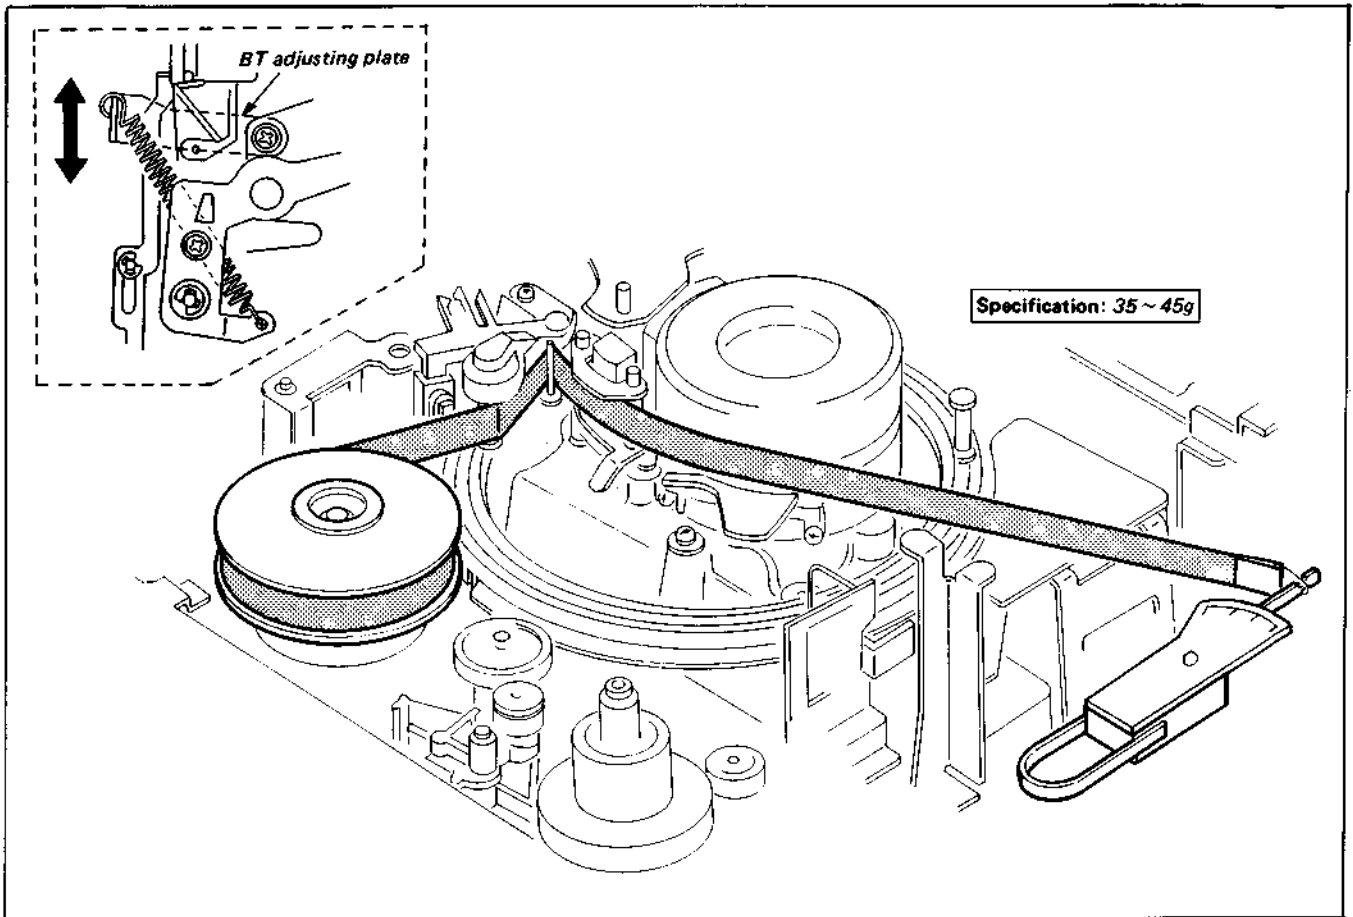

Fig. 3-42. Adjustment of FWD back tension
2. Place the FWD back tension jig (Tool Kit Ref. No. J-6) on the supply reel table assembly and thread the tape as shown in Fig. 3-42. Hook the sector type gauge (100g full scale, Tool Kit Ref. No. J-8) to the end of the tape.